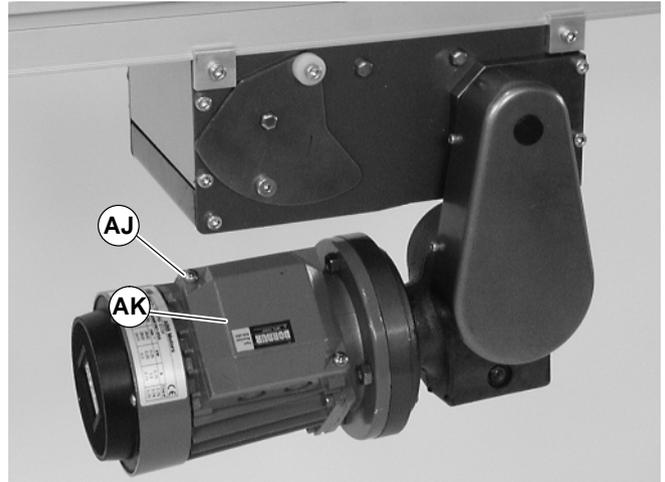

Figure 19
- Loosen terminal box screws (AJ of Figure 19) and remove cover (AK).